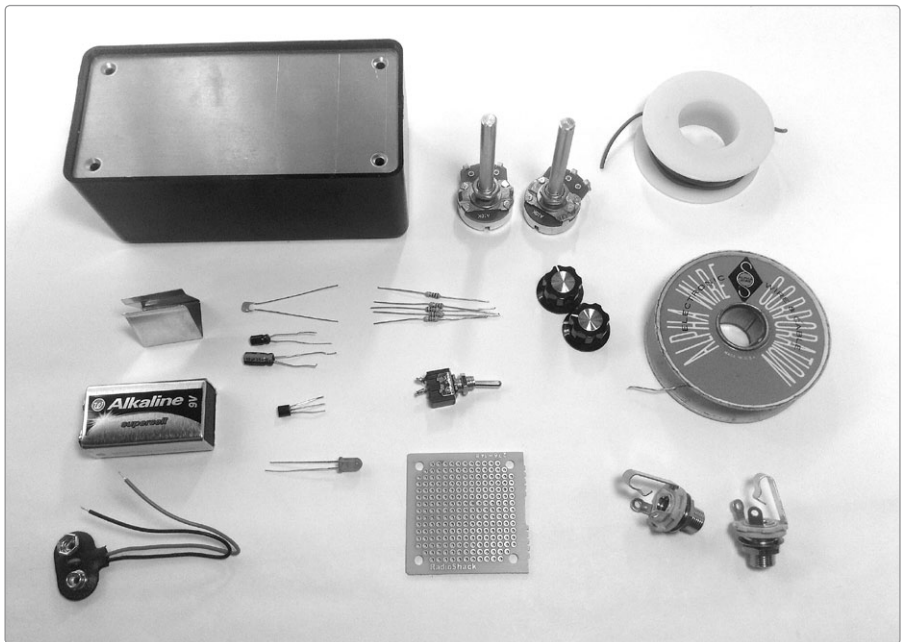

FIGURE 12-2: Tools and supplies (not shown: hacksaw)
- ▶ A pad-per-hole printed circuit board (Figure 12-2 shows an old piece of RadioShack part #276-148, but you can use a 10 hole \times 10 hole piece of any generic PCB, which is about 1 square inch. The SparkFun PRT-08811 is a perfect alternative, and the Jameco 105100 is good, too.)
- ▶ A small SPST toggle switch (You can use Mouser part #108-MS550K, which is shown in Figure 12-2, but any similar switch will work.)